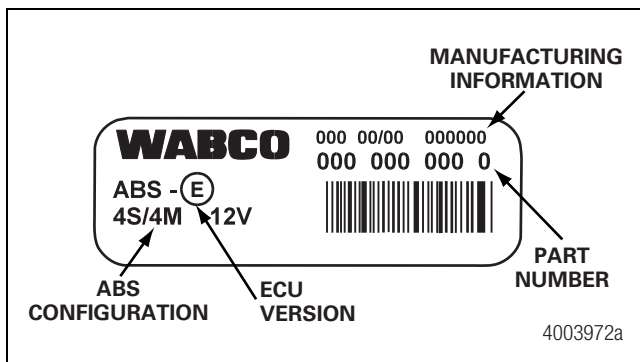

Figure 1.1
**NOTE:** For diagnostic and testing procedures for systems with C version ECUs, use Maintenance Manual 28, Anti-Lock Braking Systems (ABS) for Trucks, Tractors and Buses. For D version ECUs, use Maintenance Manual 30, Anti-Lock Braking Systems (ABS) for Trucks, Tractors and Buses. The ABS version is marked on the ECU. Figure 1.1. If you cannot identify the ECU version installed on your vehicle, contact ArvinMeritor's Customer Service Center at 800-535-5560.